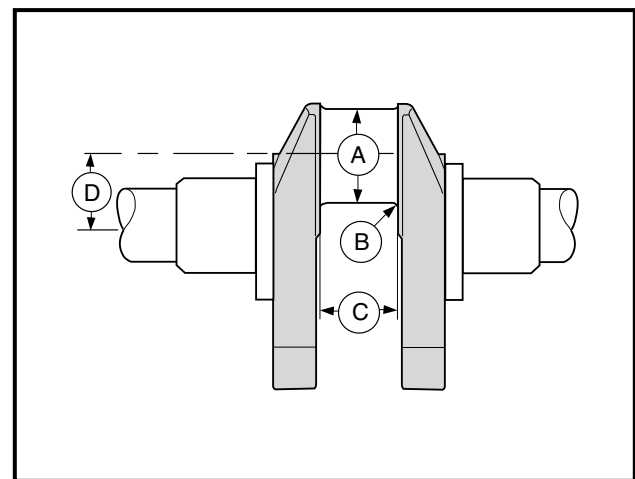

Figure 13-86 Undersized Connecting Rod Journal
1. Have a reliable repair shop grind the crankshaft journal (A) (**Figure 13-86, Page 13-40**).
2. The final finishing dimensions are as follows (**Figure 13-86, Page 13-40**).
- 2.4. (D) 1.2775 - 1.2814 inches (32.45 - 32.55 mm)
3. The connecting rod journal (A) must be concentric and cylindrical within 0.0002 inch (0.005 mm) at full indicator reading (**Figure 13-86, Page 13-40**).